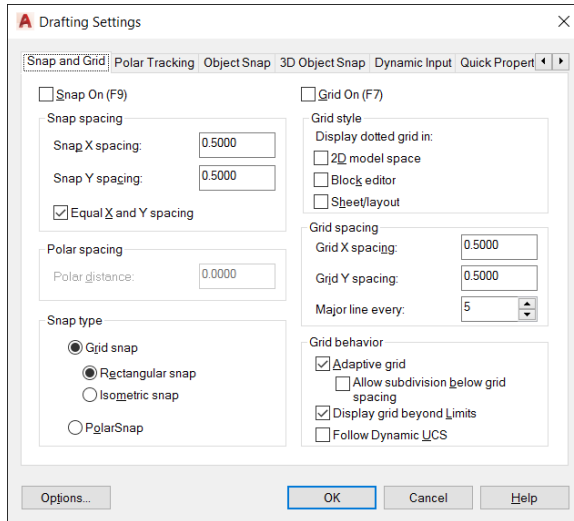

FIGURE 3-3:
The Snap and Grid tab in the Drafting Settings dialog box appears, as shown in Figure 3-3. Note that AutoCAD LT lacks some options that are present in the full version of AutoCAD.
b. Change the values in the **Drafting Settings** dialog box to match those in Figure 3-3, and click **OK** when you're finished: